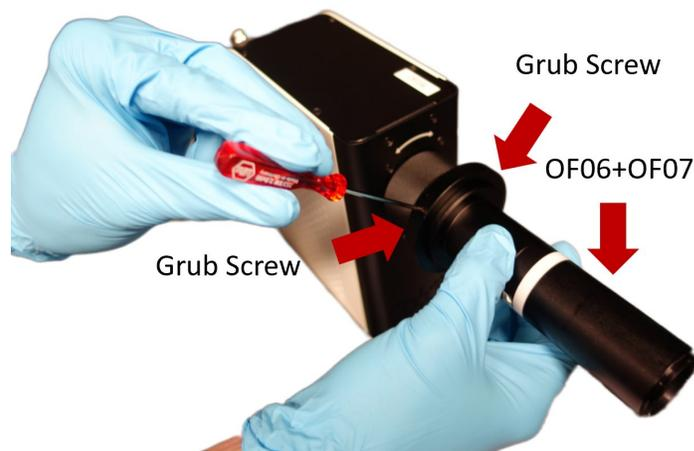

Figure 14: Tightening the three grub screws.
- Secure OF06 with three grub screws using the 2mm Hex key driver (T02) (see Figure 14).